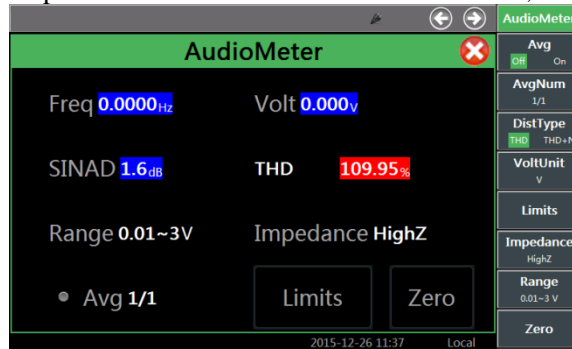

Fig. 4-29 Audio Meter Display Window
The audio meter should be subject to zero calibration before the test. Fig. 4-29 shows the audio meter display window. Click “Zero Calibration” on the touch screen or the [Zero Calibration] soft key in the right side for zero calibration of the audio meter. Note that all connections should be disconnected before zero calibration.
- The averaging of measurement results can be set according to the stability requirements. In the audio meter display window shown in Fig. 4-29, click the [Average] soft key in the right side of the touch screen, and open “Average”. Then click the [Averaging Times] key in the right menu of the touch screen, and the measurement result will be displayed after averaging according to the set times.